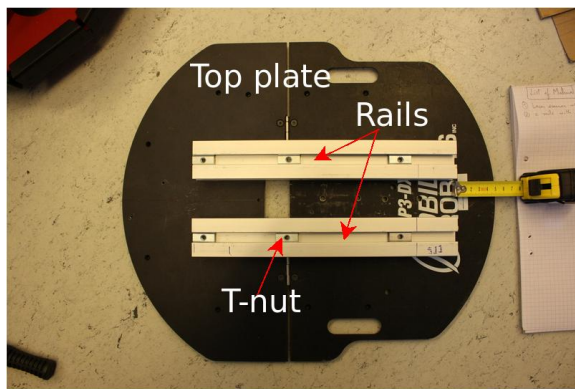
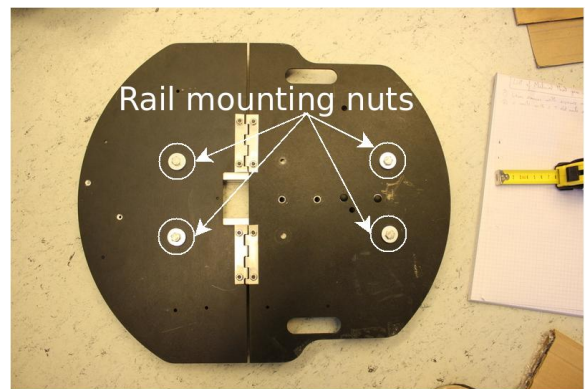

Figure 3: Rails on top plate (top view of top plate)
Figure 4: Rail mounting screws (bottom view of top plate)
2. The two rails are on the top surface of the plate (figure 3). They are mounted with four set screws (screws with hexagonal heads) on the bottom surface (figure 4). Loosen these set screws till both the rails can be jiggled around.